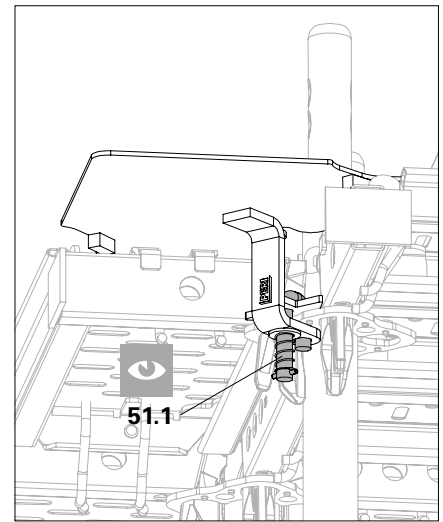

Fig. A7.05b
5. Push the inside corner plate towards the standard and slide the standard mounting head over the rosette. (Fig. A7.05b)